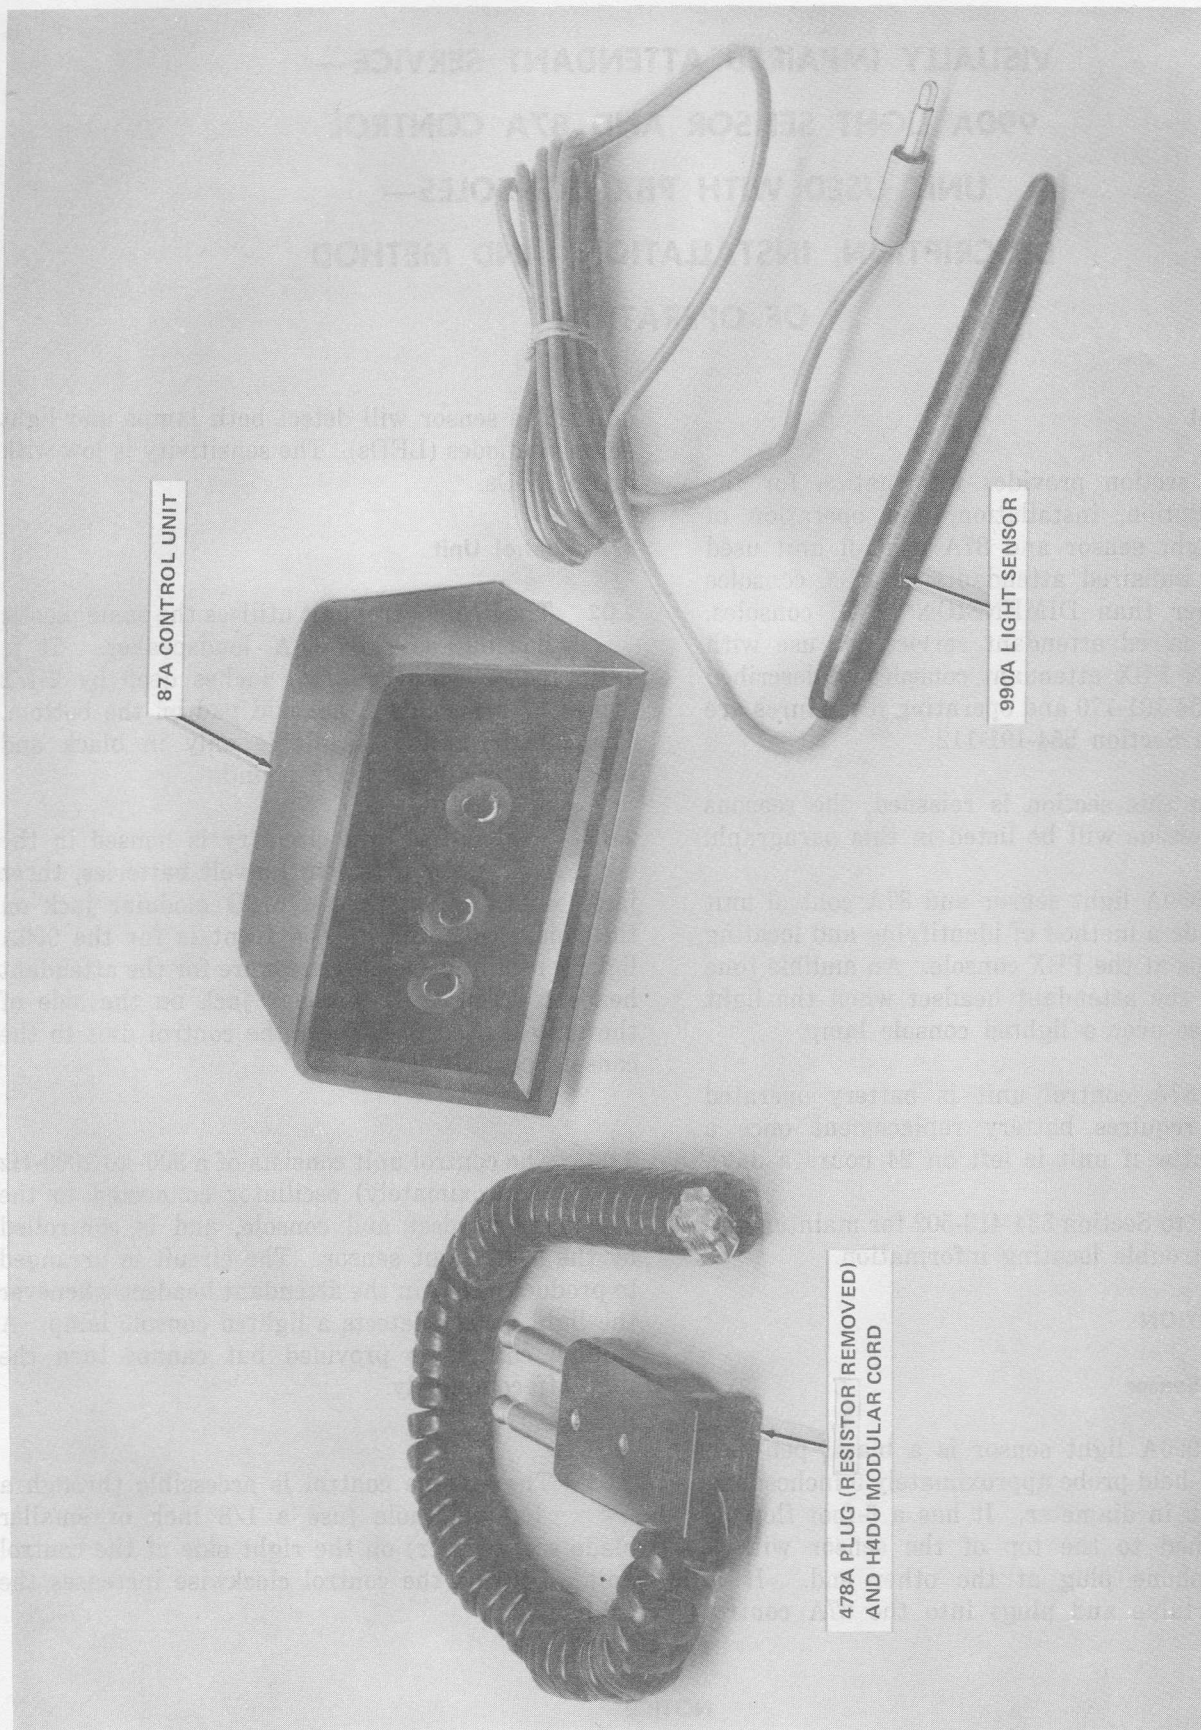

Fig. 1—Control Unit, Light Sensor, and Cord Assembly
**1.01** This section provides information for the description, installation, and operation of the 990A light sensor and 87A control unit used by visually impaired attendants at PBX consoles (Fig. 1) other than DIMENSION® PBX consoles. Visually impaired attendant service for use with DIMENSION PBX attendant consoles is described in Section 554-191-170 and operating procedures are described in Section 554-191-112.